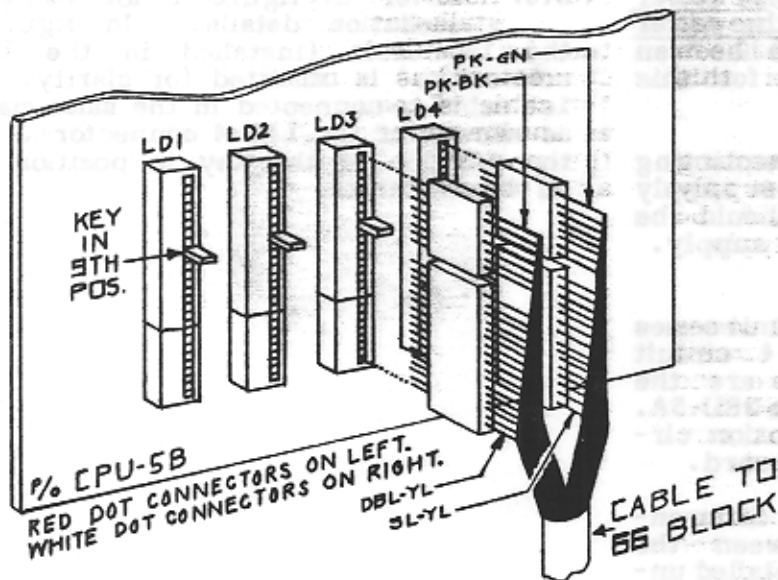

Figure 1 - Cable Installation Detail
3.07 Refer to figure 1 for cable installation details. In figure 1, the 1st cable (installed in the LD1-2 connectors) is omitted for clarity. The 1st cable is connected in the same manner as shown for the LD3-4 connectors. Note the position of the key in position 9 in all 4 connectors.